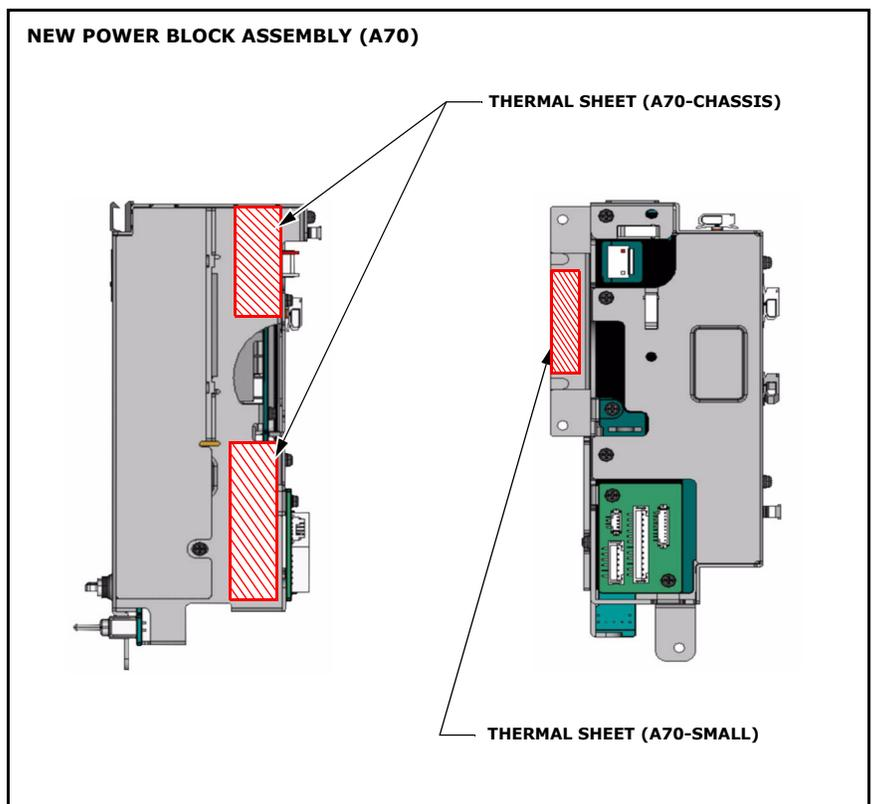

Figure 5
2. Attach the new thermal sheets to the new power block assembly (A70). (See Figure 5.)